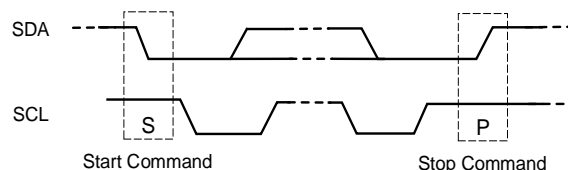

Figure 7: Start and Stop Commands
The start (S) and stop (P) commands are signaled by the master device, which signifies the beginning and the end of the I²C transfer. The start command is defined as the SDA signal transitioning from high to low while SCL is high. The stop command is defined as the SDA signal transitioning from low to high while SCL is high (see Figure 7).